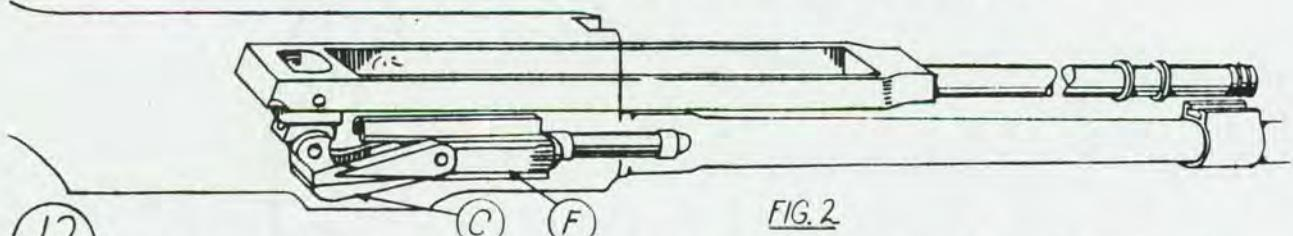

FIG. 2
IN BARREL AND PULL OPERATING SLIDE A FORWARD. THE BOLT LOCK (C) WILL GO INTO POSITION, FIG. 2. HAMMER PIN (D) SHOULD STAND AT LOCKED POSITION X, FIG. 1. MOVE SLIDE A TO REAR TO RETRACT BOLT (F). PARTS SHOULD SLIDE EASILY. REMOVE GAGE (B).